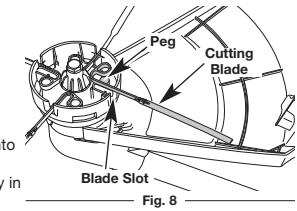

Fig. 8
- Turn the cutting head over and grab an individual blade near the cutting head and wiggle it up and down until blade comes loose. (Fig. 8)
- Take the new blade so that the loop at the end is facing away and to the right. (Fig. 8)
- Place the loop onto the peg and adjust it so that it fits into the slot on the cutting head. (Fig. 8)
- Repeat steps 4 thru 6 until all 4 blades are in place. (Fig. 8)